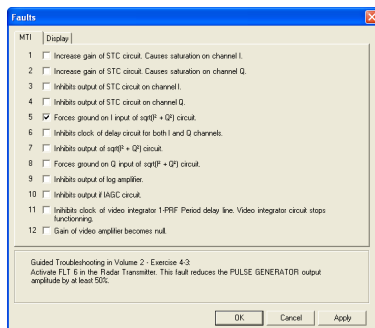

Figure 9. Faults window in the LVRTS software.
- Insert faults in the system (password-protected feature) for troubleshooting purposes (see Figure 9).